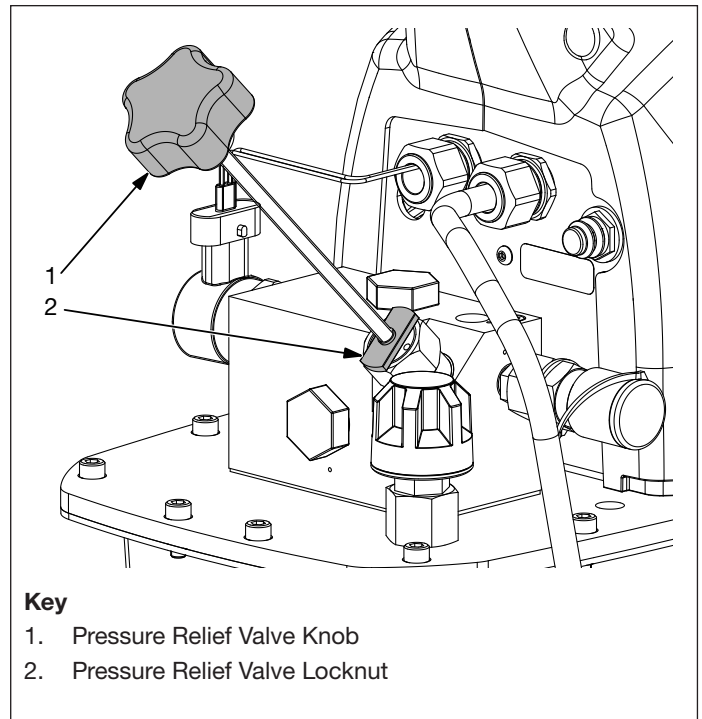

Figure 5, Pressure Relief Valve (user adjustable)
4. Loosen the pressure relief valve locknut to allow for pressure adjustment. Refer to Figure 5.
5. Turn the pressure relief valve knob several turns counterclockwise so that the relief valve is set lower than the desired setting. Refer to Figure 5.